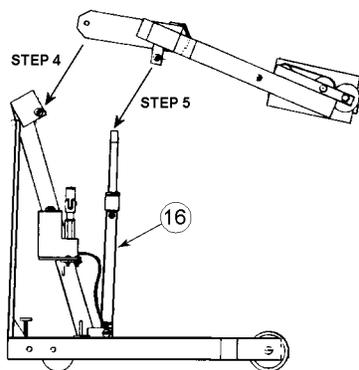

Figure 3
Step #4: Lift overhead assembly into position. A drift pin can help align the holes. Insert a greased clevis pin (item 12) through mast cap and boom. Tighten collar set screw onto pin. See figure 3.